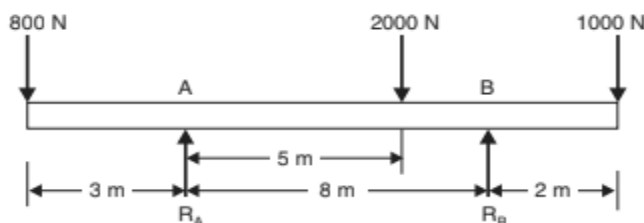

Fig. 5.19
**Problem .** A beam AB of span 8 m, overhanging on both sides, is loaded as shown in Fig. 5.19. Calculate the reactions at both ends.